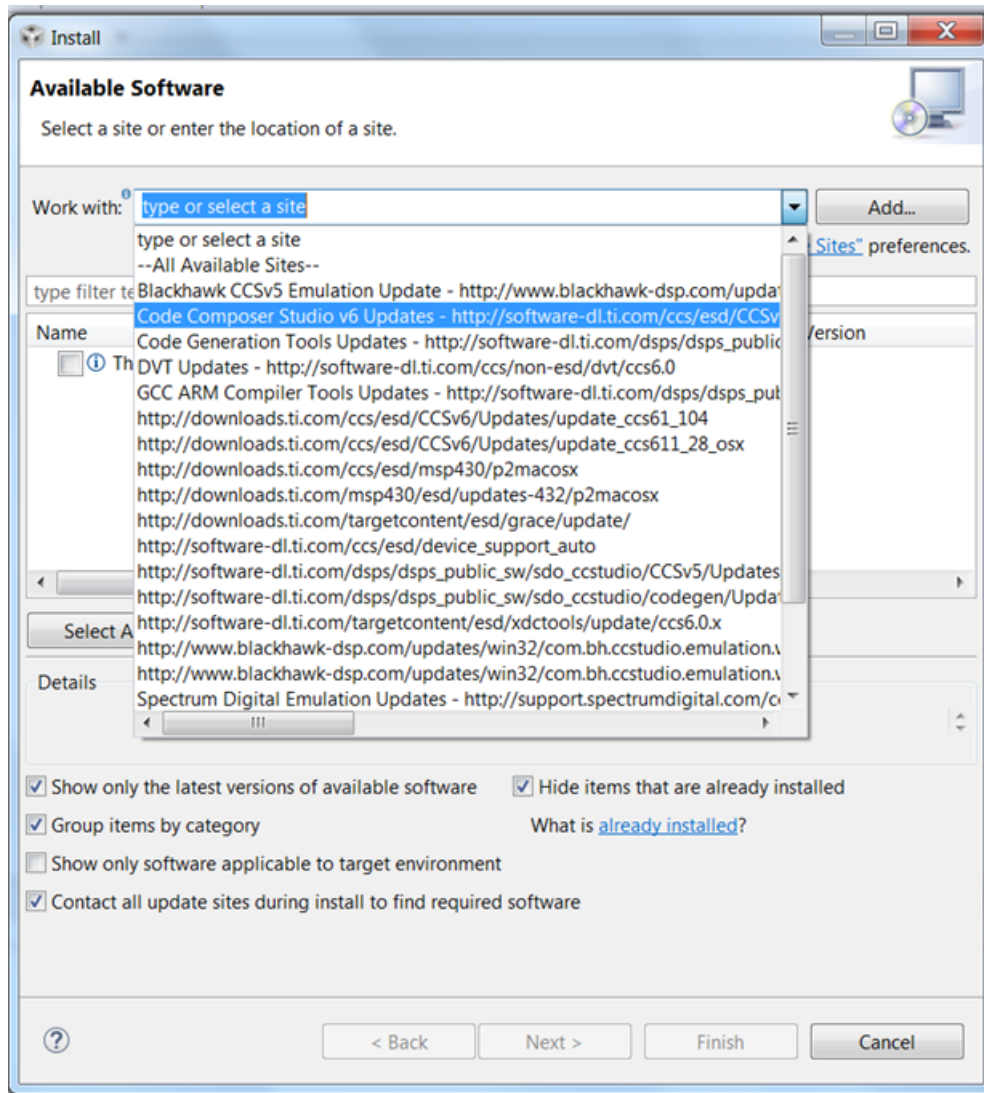

Figure 2. Selecting Code Composer Studio v6 Updates in the CCS Install Pop Up Window
2. In the pop up window select “Code Composer Studio v6 Updates” in the Work with: field as shown in Figure 2 and Figure 3.